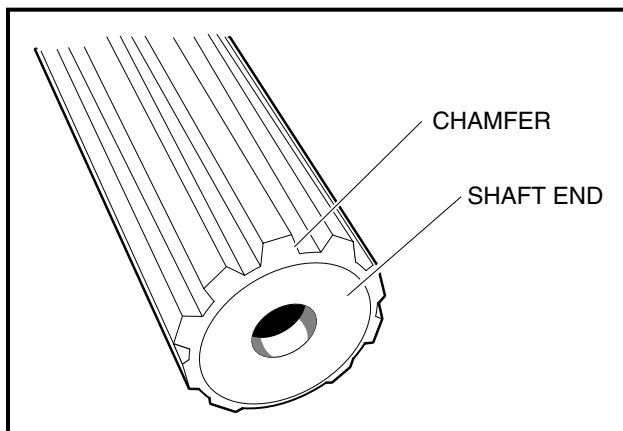

Figure 15-16 Clean Chamfer and Input Shaft End
2.6. Check the chamfer and end of the input shaft to ensure these areas are completely clean of grease as shown (Figure 15-16, Page 15-13).